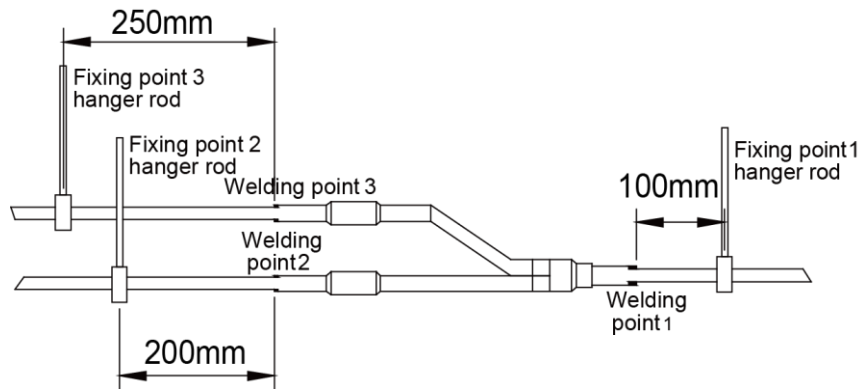

Fig.31
- (3) There must be three fixing point for both horizontal and vertical installation of the Y-type manifold. See Fig.31.